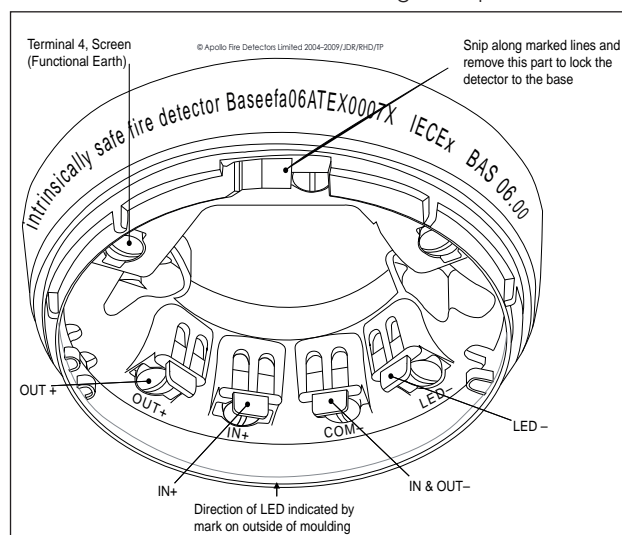

Fig 1 Orbis IS base terminals
3. Fig 1 shows the wiring terminals. The terminal marked '4' on the base is provided for connecting the screen or functional earth.